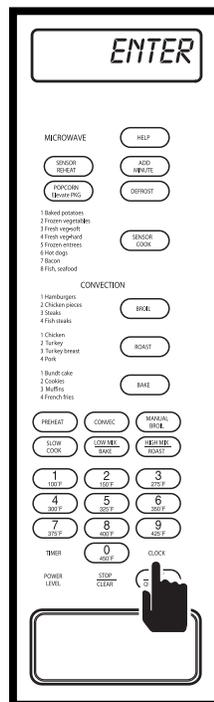

Figure 3-68.
4. To exit Demo Mode, press **CLOCK** again and "ENTER - TIME" will flash on display (See Figure 3-68).